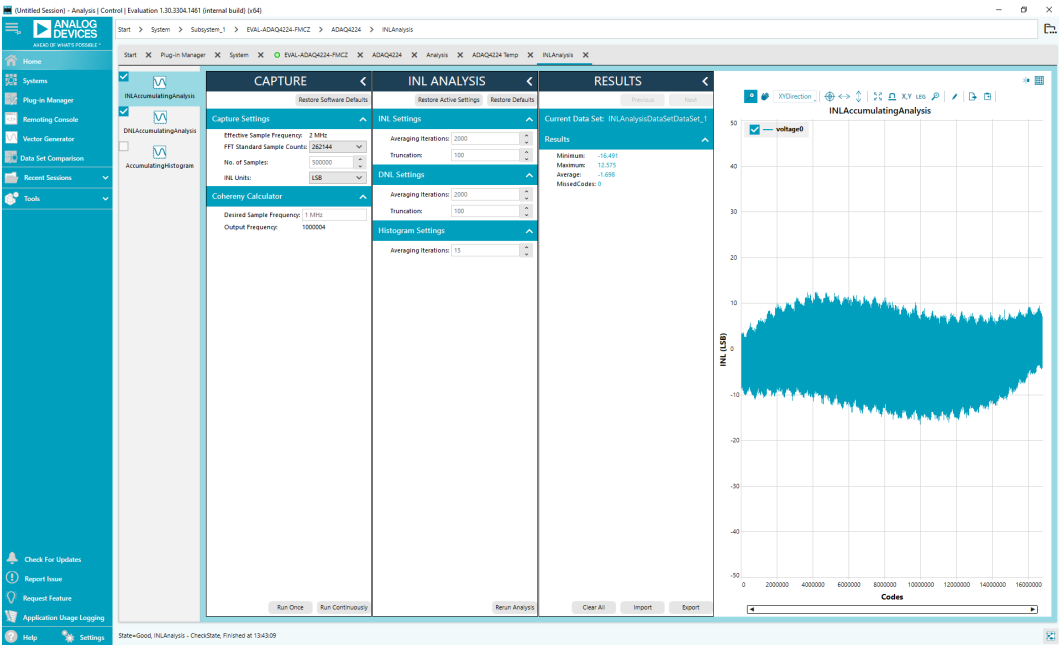
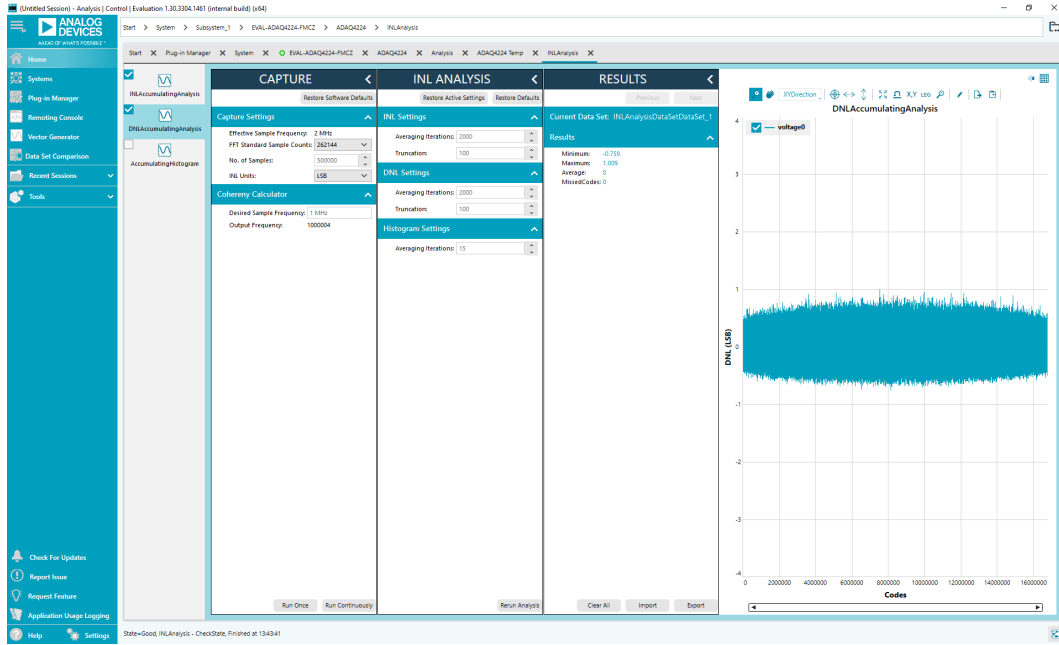

Figure 16. INL Analysis Tab, INL View
Figure 17. INL Analysis Tab, DNL View
7. For INL and DNL analysis, go back to the Chip view tab and click **Proceed to INL Analysis** button. On the **CAPTURE** and **INL Analysis** pane, set the sampling frequency, no. of samples, no. of iterations, truncation, and units. Before doing an INL analysis, modify the EVAL-ADAQ4224-FMCZ and install R67 and remove R59. This connects the VSS_FDA pin of the ADAQ4224 to the -1 V supply. After the INL capture is done, the user can view the results in then INL and DNL views, as shown in Figure 16 and Figure 17.
The INL Analysis tab allows the user to showcase the linearity performance of the ADAQ4224. Before performing any measurements, set the **Capture Settings** and **INL Settings** in the **CAPTURE** and **INL ANALYSIS** pane, respectively, as shown in Figure 16 and Figure 17. To perform linearity test, apply a +0.5 dBFS amplitude sinusoidal signal from a precision signal source at the VIN+ and VIN- SMA inputs of the EVAL-ADAQ4224-FMCZ board. VSS_FDA also needs to be connected to the on-board -1 V supply.